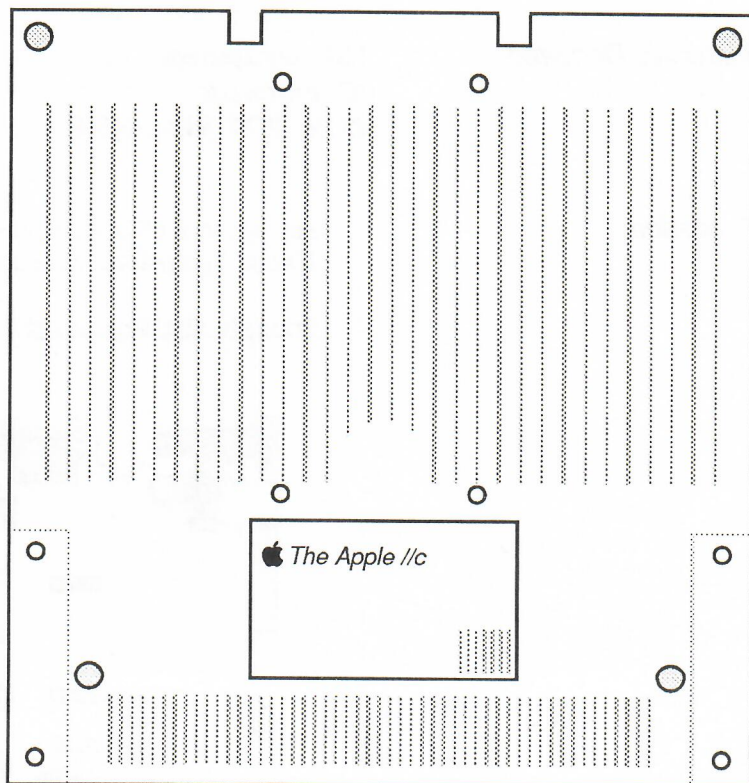

FIGURE 12
10. Install the new FCC label on the bottom side of the IIc case. The label should cover the present label or engraving (Figure 12).